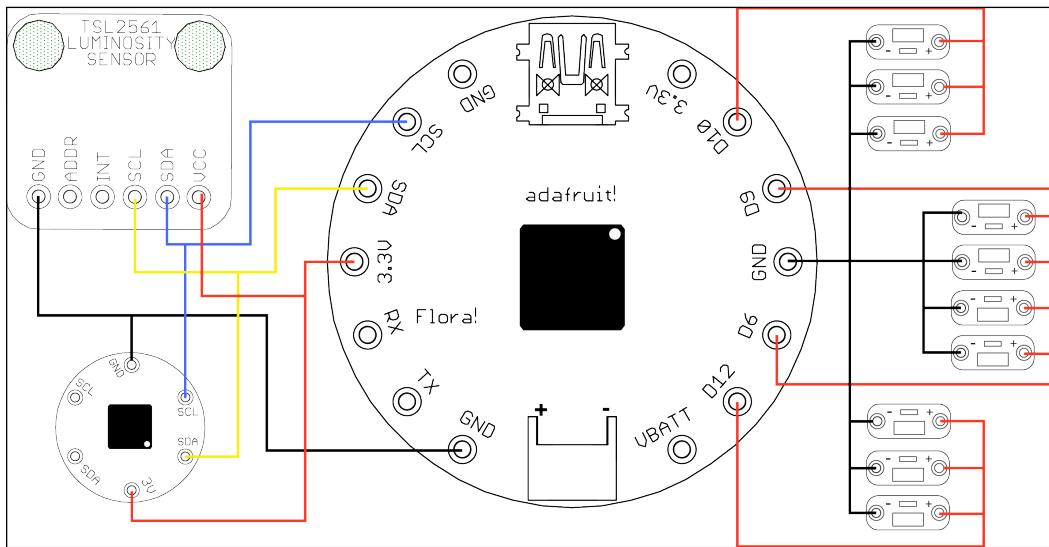
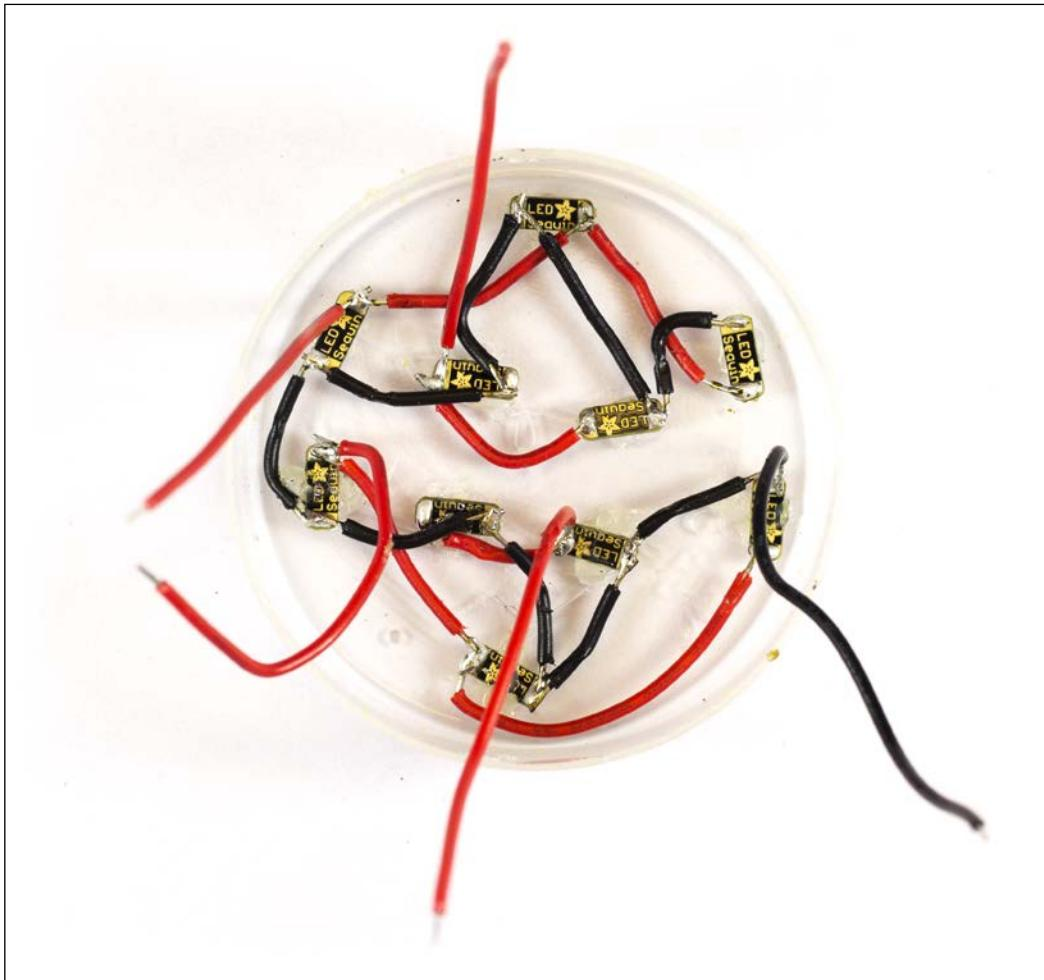

Figure 3.3: The connection needed for all the components
Figure 3.4: The LEDs soldered in place
In *Figure 3.3* you will find the connection layout of how to connect all the LEDs, the TSL2561, and the accelerometer to the FLORA board:
*Figure 3.4* shows the LEDs inside the can cap. In order to fix them to the cap, use hot glue and glue them with the LEDs facing down. The idea is that the LEDs will shine through the transparent cap. You can use any glue you want, but hot glue is great, since if you place something in the wrong place, you can still remove it and try again. The LEDs in *Figure 3.4* are soldered together according to schematic in *Figure 3.3*. All the ground connections have been soldered together since ground is the same for all components. From each set of LEDs and the ground connection we have added a wire so that we can connect them to the FLORA board. The next step is to connect the TSL2561 and accelerometer to the FLORA board.